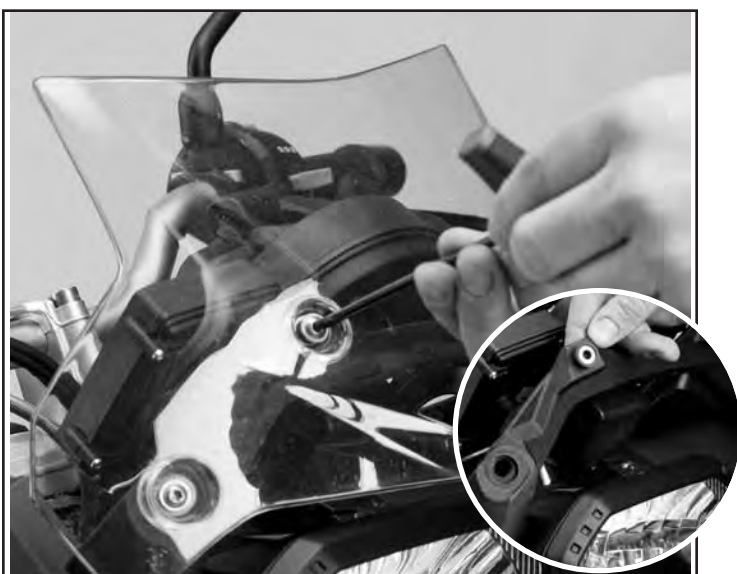

Figure 6
2. Remove the stock windscreen. Hardware will not be re-used. **Figure 6 (T25 Torx)**